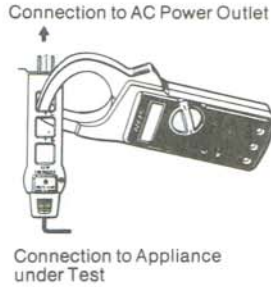

Fig. 10
- (1) As shown below, Model 2009 clamped onto "1 ×" position of the ENERGIZER is to measure current flowing through a twin conductor line cord (up to 10 A AC) (Fig. 10).
- (2) To measure a low current more accurately, clamp onto "5 ×" or "10 ×" position. Divide the reading by 5 or 10 to obtain a true current value.